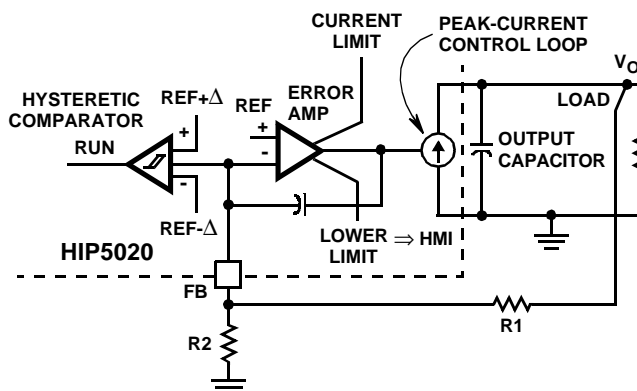
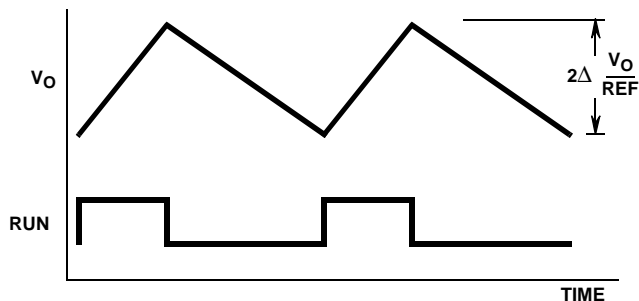
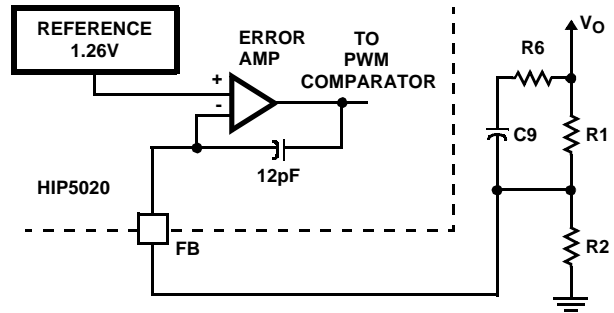

FIGURE 5. SIMPLIFIED DIAGRAM OF OUTPUT VOLTAGE REGULATION AND MODE SWITCHING
FIGURE 7. TYPICAL HYSTERETIC MODE OPERATION
FIGURE 8. LEAD-LAG COMPENSATION CIRCUIT
When averaged over many switching cycles, the entire peak-current control loop can be simplified and described as a voltage controlled current source. Figure 5 shows a simplified diagram of this operation. The current source supplies the output capacitor and load. The outer voltage regulation loop consists of an error amplifier and compensation components. The error amplifier programs the inductor current (as described above) to the value required to regulate the output voltage. Both the error amplifier and hysteretic comparator monitor the feedback (FB) pin. During the Run mode, the feedback node voltage (V_{FB}) is held to the reference voltage (REF) by the voltage feedback loop. V_{FB} is related to V_O , R1 and R2.
The HIP5020 operates in the hysteretic mode with low output current. In this mode, the hysteretic comparator cycles the control on (RUN = High) and off (RUN = Low) as a function of the output voltage and the FB voltage level. Figure 7 illustrates the averaged Hysteretic Mode operation with reference to Figure 5. At light load, the error amplifier output voltage is held to the HMI voltage (V_{HMI}). This level commands an inductor current that exceeds the load current. The excess current flows into the output capacitor which increases the output voltage (V_O). The voltage feedback loop no longer holds V_{FB} at the reference voltage. When V_{FB} increases to the Upper Hysteretic Trip Level, the RUN signal transitions Low to power-down most of the control's functions, and the load is supplied by the output capacitor. After V_{FB} (and the equivalent output voltage) drops below the Lower Hysteretic Trip Level, RUN transitions High, turning on the controller. The converter replenishes the charge on the output capacitor (C1). This cycle repeats to regulate the output voltage.
The error amplifier and compensation components regulate the output voltage by controlling the current loop (as shown in Figure 5). The compensation components shown in Figure 8 realize a lead-lag circuit. The resistor R1 adjusts the loop gain of the converter and resistor R6 and capacitor C9 set the pole and zero. The resistor R2 does not appear in the lead-lag transfer function. R2 sets the output voltage level. First stabilize control loop by selecting R1 and then determine R2 for the desired output voltage level.